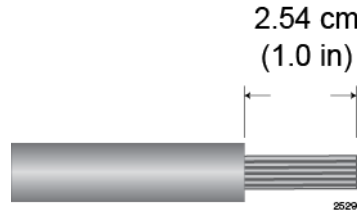

Figure 149. Stripping Solid or Stranded DC Power Wires
1. Prepare adequate lengths of two solid or stranded 8 AWG DC power wires by stripping them as shown in Figure 149.